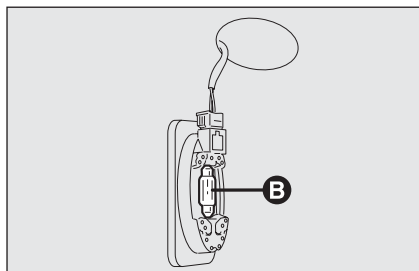

fig. 43
- ☐ replace the bulb **B-fig. 43** releasing it from the side contacts making sure that the new bulb is correctly clamped between the contacts;